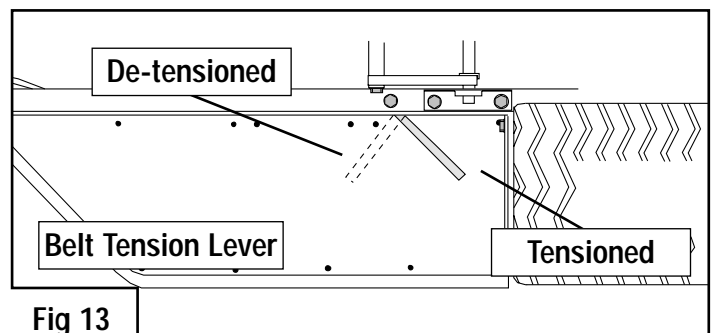

Fig 13
2. De-tension the Cutter Drive Belt with the Deck Tension Lever situated under the left (nearside) running board (see figure 13).
1. Pull the Belt Tension Lever forward to detension (fig 13).
1. Is the Engine to Cutter Drive Belt slipping? Check that the Drive Belt Tension Lever (fig 13) under the left running board is in the tensioned position. If not, rectify – this is the most likely cause of Cutter failure.
1. Release the tension on the belt by pulling the Belt Tension Lever (page 7, fig 13) forward.